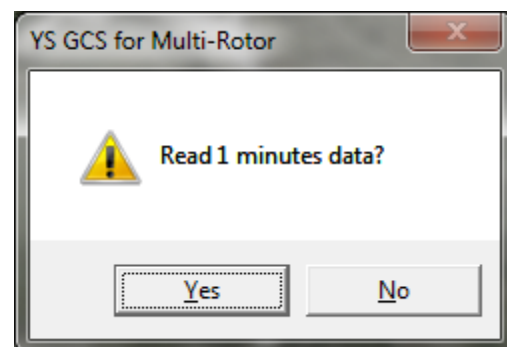

Figure 63
2. Select “Settings”→“1 Minute Data” and a confirmation dialog box will pop up, as shown in Figure 63.